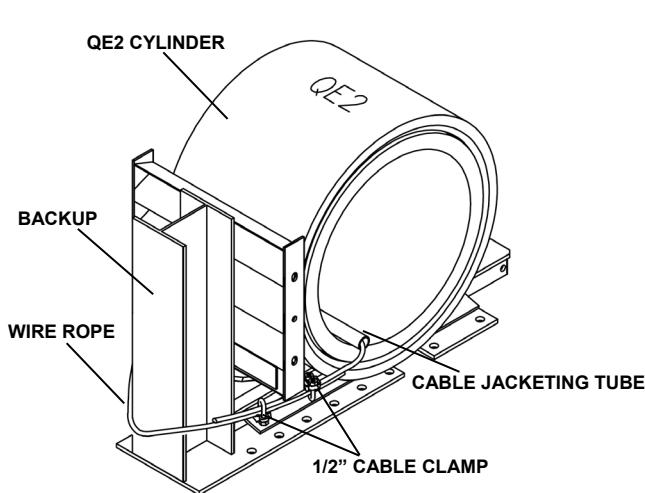

Figure 21
Thread the 1/2" [13 mm] diameter wire rope around the Backup structure, the Cable Jacketing Tube, and the center of the Cylinder as shown in Figure 21.
Attach ends of cable using (2) 1/2" [13 mm] Cable Clamps as shown in Figure 21. The Cable Clamps should be separated by approximately 102 mm [4"] as shown.
Continue attaching the Cylinders to their common diaphragms using the 1/2" cable, Cable Clamps, and Cable Jacketing Tube as shown in Figure 21 above.